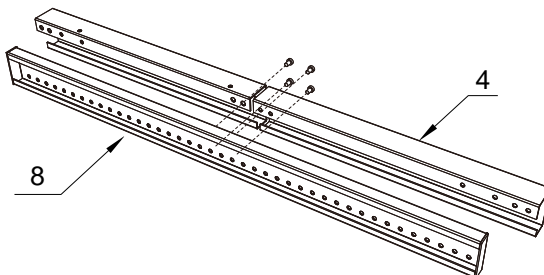

Figure 3
4. Insert M5\*10 Cross head screws through into the holes in the Corner Brackets and Center Sections. (Figure 3)